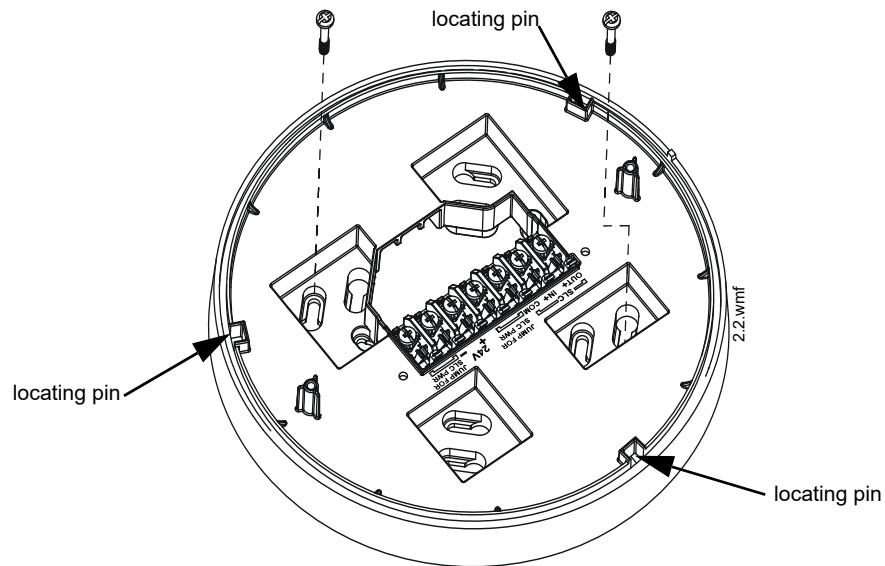

Figure 3.3 Mounting Plate for Wireless Display Driver
2. Mount the mounting plate to the junction box or ceiling. See Figure 3.3 below.